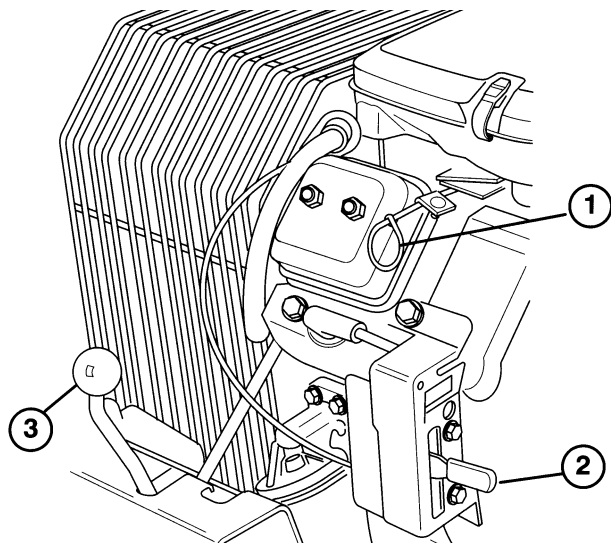

Figure 5
**Ignition Switch** (Fig. 5)—The ignition switch, which is used to start and stop the engine, has three positions: OFF, ON and START. Rotate key clockwise—START position—to engage starter motor. Release key when the engine starts. The key will automatically return to the ON position. To shut the engine off, rotate key counter-clock-wise to the OFF position.
**Choke** (Fig. 5)—To start a cold engine, close the carburetor choke by pulling the choke control outward to the ON position. After the engine starts, regulate the choke to keep the engine running smoothly. As soon as possible, open the choke by pushing it inward to the OFF position. A warm engine requires little or no choking.
**Throttle** (Fig. 5)—The throttle is used to operate the engine at various speeds. Moving the throttle upward increases engine speed—FAST; rearward decreases engine speed—SLOW. The throttle controls the speed of the coring head and, in conjunction with traction clutch, controls the ground speed of the machine.
**Gear Shift Lever** (Fig. 5)—The transmission has two forward speeds, neutral and reverse, and has an inline shaft pattern. Do not shift while unit is moving, because transmission damage may occur.